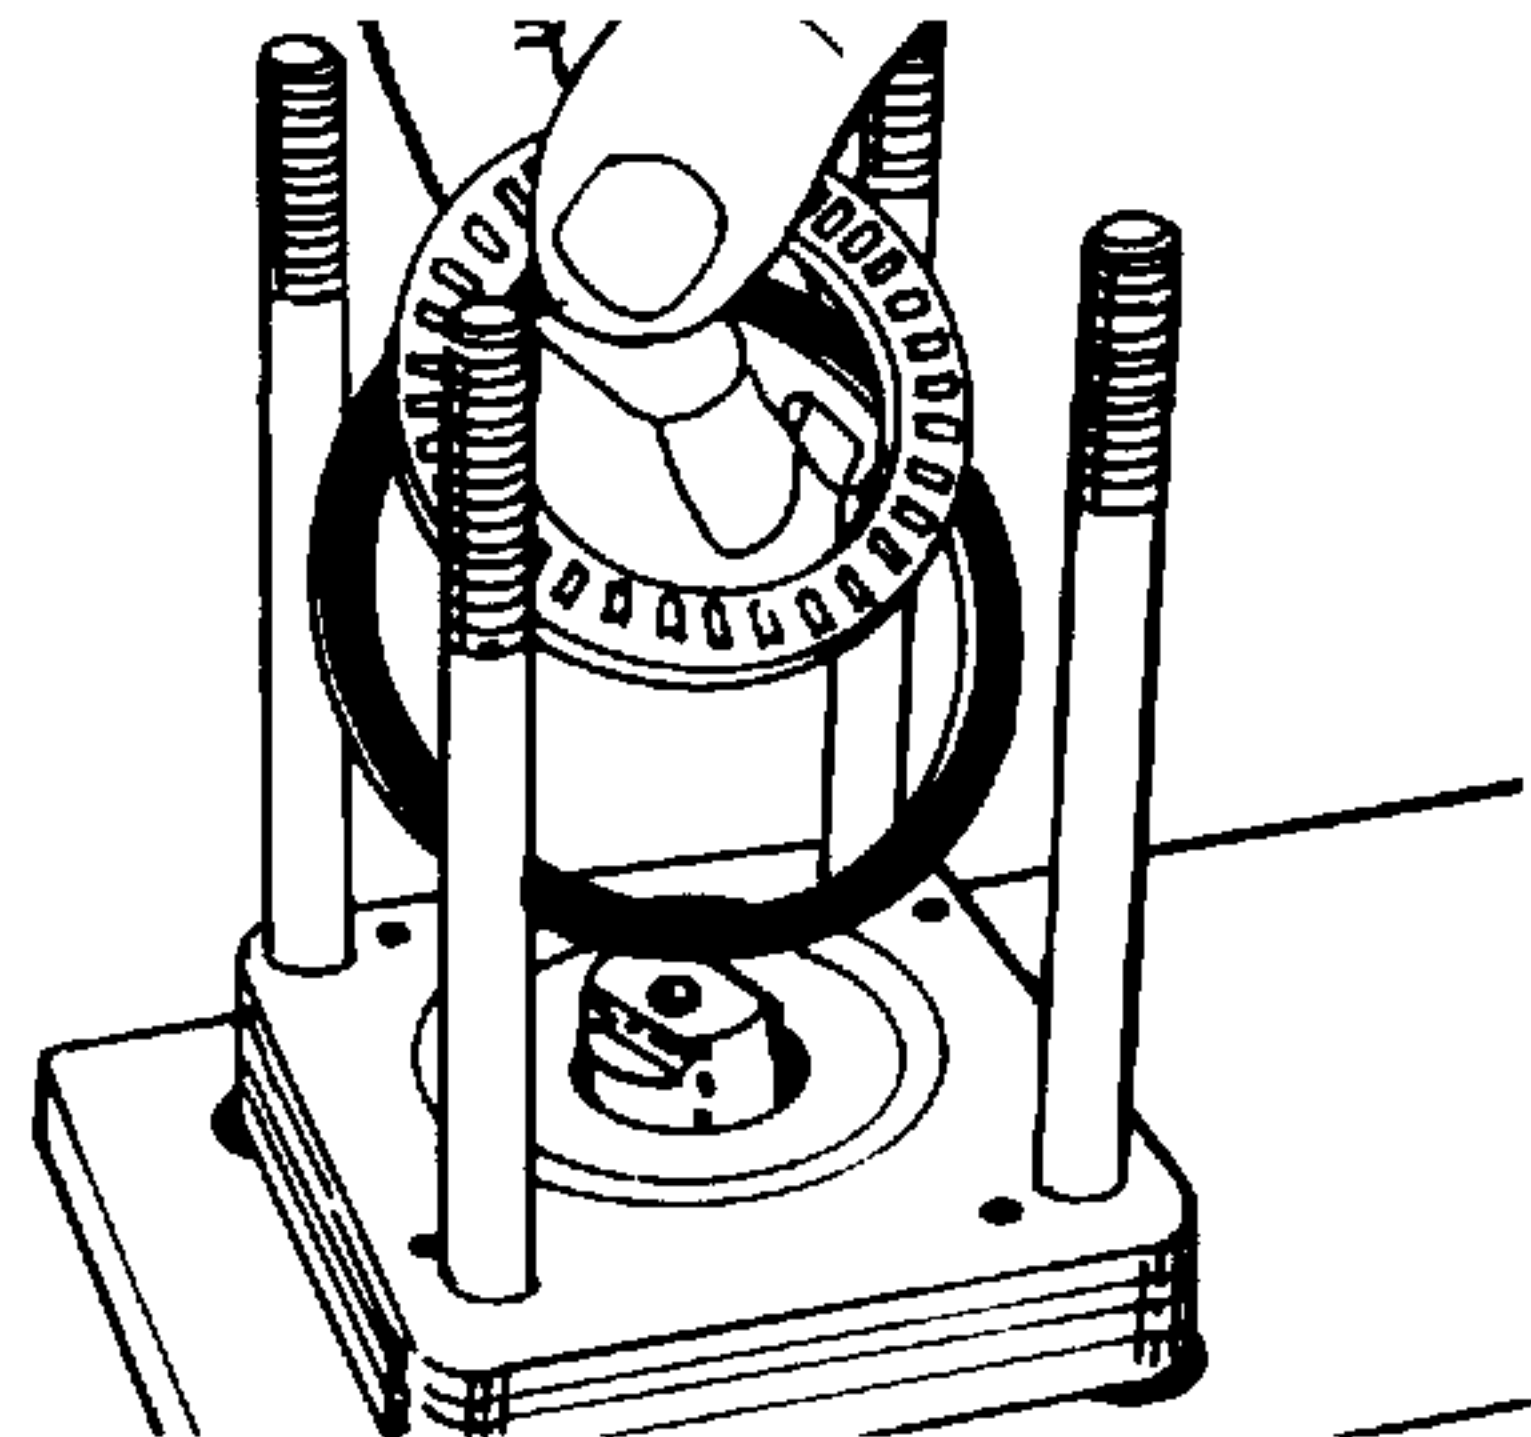

Figure 4-34. Removing Thrust Bearing and Spacer.
39. Remove thrust bearing (26, Figure 4-1) and bearing spacer (25) from upper cover plate (30). See Figure 4-34.
40. Inspect the thrust bearing (26, Figure 4-1) for brinelling (dents) or spalling (flaking). If either exists, or if one or more of the rolls are lost or broken, replace the bearing assembly. See Figure 4-34. Replace face seal spacer (29, Figure 4-1) or bearing spacer (25) if worn or broken.